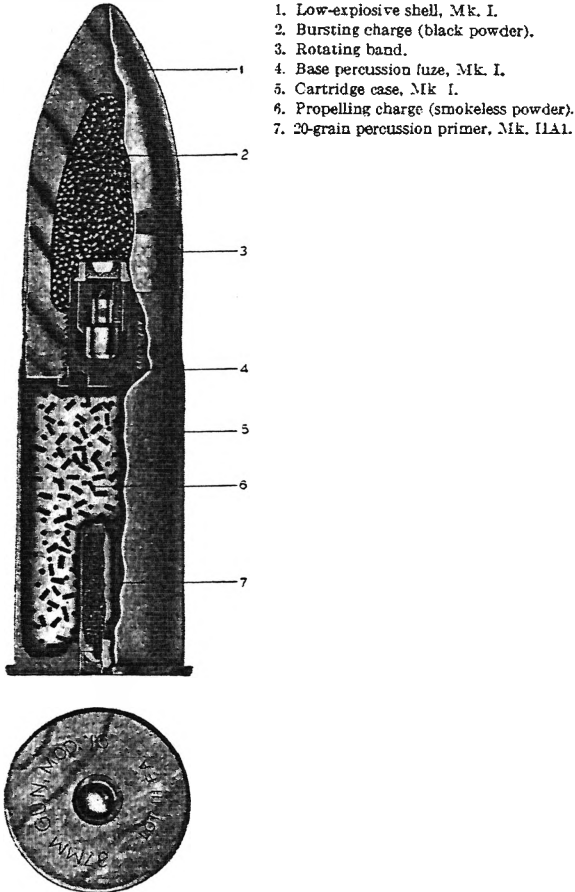

FIGURE 2.—Complete round of 37-mm low-explosive ammunition
- (a) The low-explosive shell, Mk. I (fig. 2), is the first shell designed for the 37-mm gun. It is limited standard and manufacture has been discontinued. The bursting charge consists of approximately 0.034 pound of black powder.
- (b) *Effective range.*—See *c* (3) (b) above.
- (c) *Effective radius of exploding projectile.*—See *c* (3) (c) above.